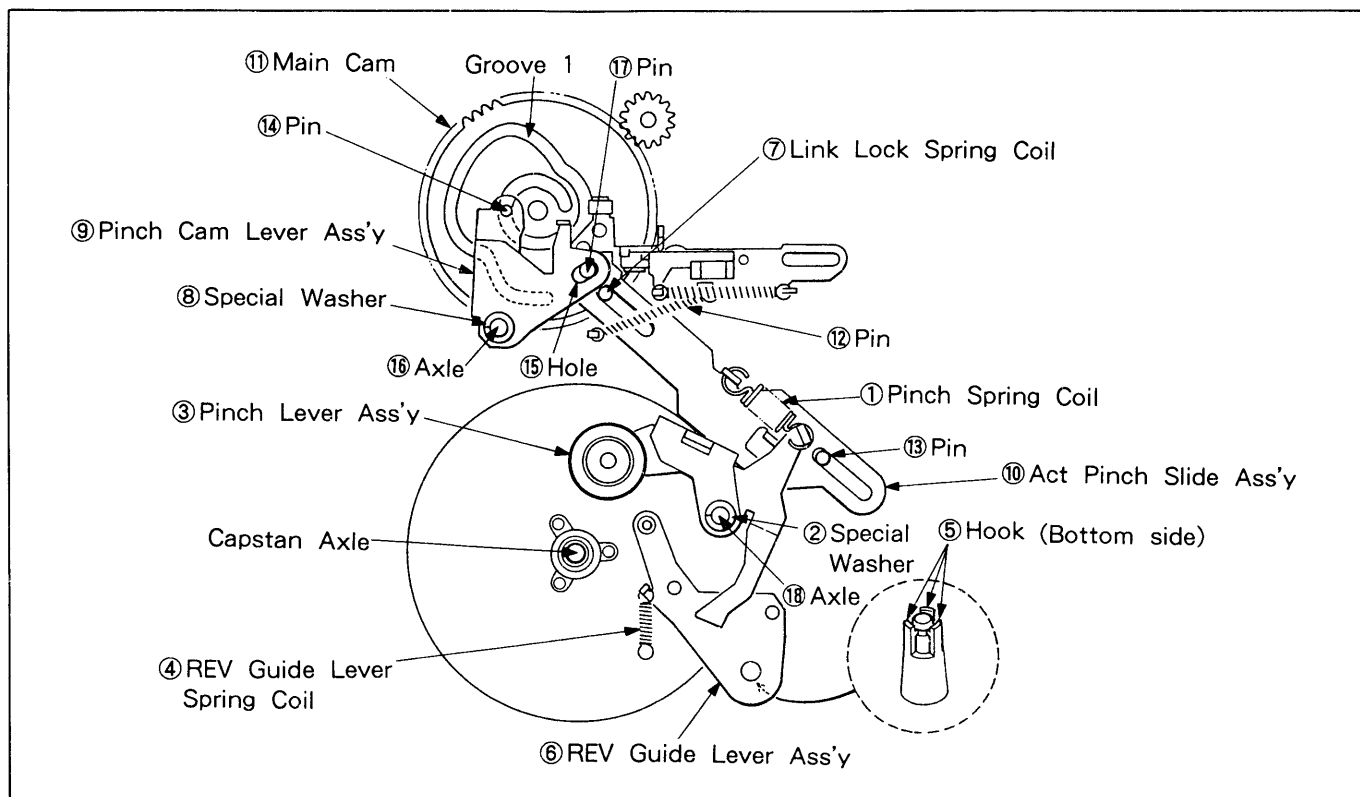

Fig. 5-6-1. Pinch Roller Pressing Mechanism
5.6. PINCH ROLLER PRESSURE MECHANISM (See Fig. 5-6-1.)